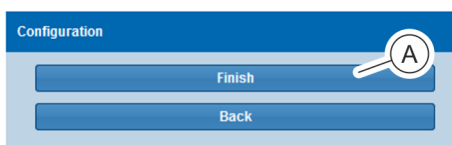

Fig. 51: "Setup" window
26. Use the 'Finish' button (Fig. 51/ⓐ) to close the setup wizard.